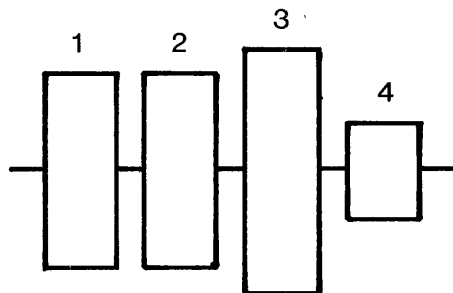

Figure 2-10
- E. Figure 2-10 depicts an azimuth of exactly minus 9, 12, or 18 minutes, depending upon the manufacturer of the diskette used. This is the lower limit of allowable azimuth error. Bursts 1 and 2 are of equal amplitude. If this signal is observed, the Cats Eye alignment should be checked prior to any corrective action.